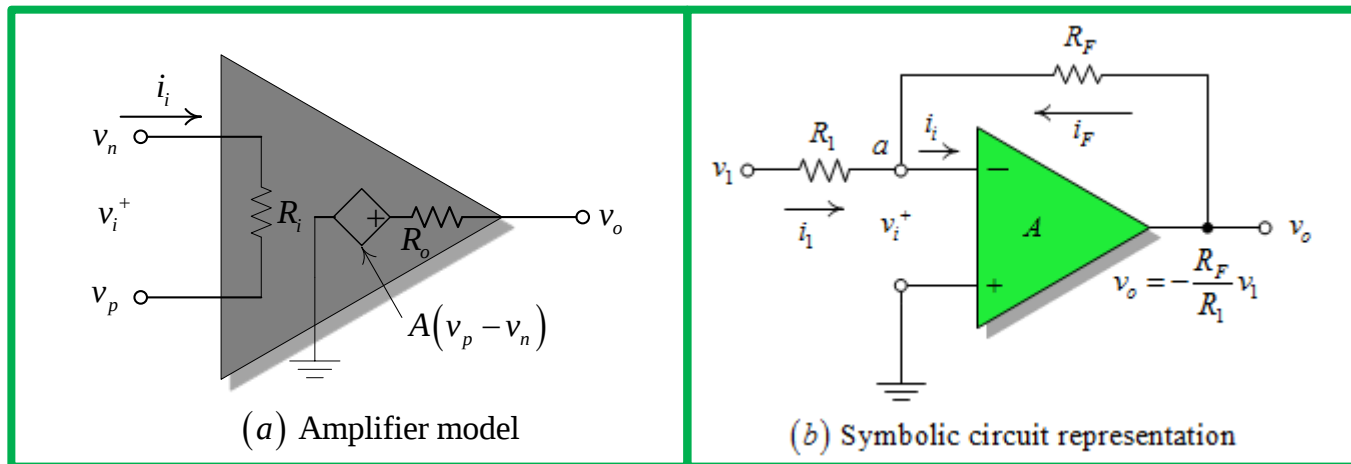

Fig. 4: The basic inverting amplifier circuit.
- For an ideal op amp as in Fig. 4 *b*, closely approximated by a commercial unit, $v_i = 0$ and $i_i = 0$; therefore, the sum of the currents into node *a* is
- In the circuit of Fig. 4, $R_i = 1\text{ M}\Omega$, $R_o \cong 0$, $A = 2.5 \times 10^5$, $R_1 = 10\text{ K}\Omega$, and $R_F = 1\text{ M}\Omega$. For $v_o = -5\text{ V}$, calculate $v_a = v_i$, v_1 , i_i , and $i_1 = -i_F$. In an ideal op amp, $v_i/v_1 \ll 1$ and $i_i/i_1 \ll 1$; on that basis, can this op amp be considered ideal?
- ❑ If the circuit in Fig. 4 is modified to permit multiple inputs, the operational amplifier can perform addition.
could be translated to an output signal amplitude of 12 V. The conversion involves a weighted sum corresponding to the output of the op amp summing circuit of Fig. 4.